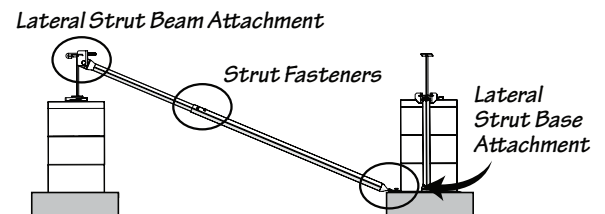

Fig. 4-4
- Secure the extended Longitudinal Strut by installing 4 self tapping screws in the 4 holes in the outer longitudinal tube as shown in Fig 4-4. Attach 2 screws per side.
- Secure the extended lateral strut by mounting 4 self tapping screws in the 4 holes in the outer lateral tube as shown in Fig. 4-4. Attach two screws per side.